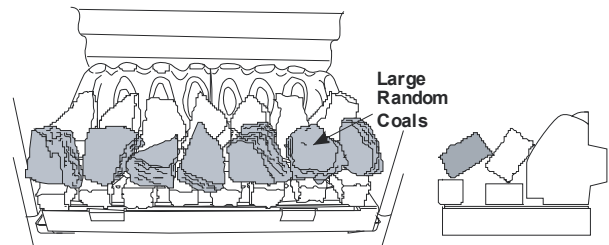
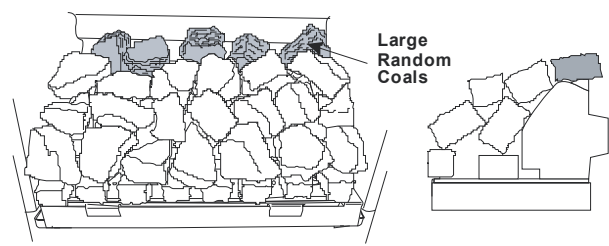

Figure 25
Figure 28
5. Continue laying the coals as shown in **Figure 25 to Figure 28** ensuring that the coals are placed 'loosely'. Packing the coals too tightly together will result in a poor flame picture. The best results come from a 'loose' fuel build.